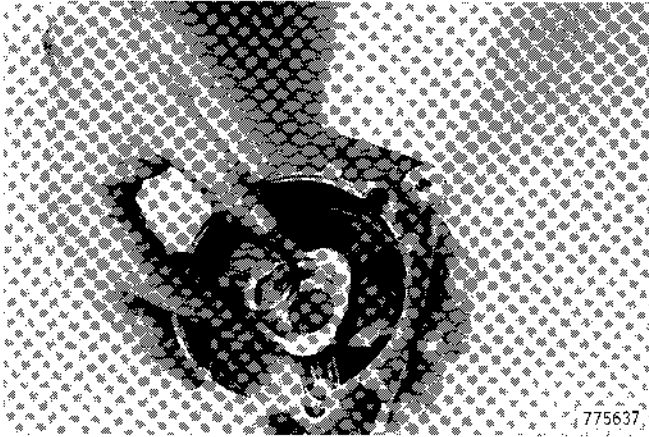

Figure 35
1. Install seal in front frame, Figure 35.